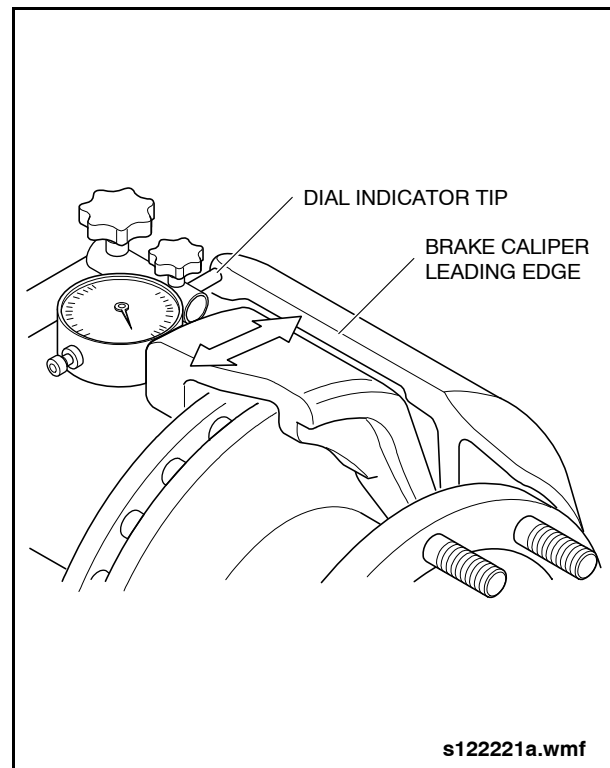

Fig. 2: Measuring Guide Pin Play
- b. Mount a dial indicator (Items 29 & 69 from special tools list) on the steering knuckle with the indicator tip resting on the leading edge of the brake caliper. Apply pressure to the brake caliper in an upward direction. Zero the dial gauge. See "Fig. 2: Measuring Guide Pin Play" on page 3.